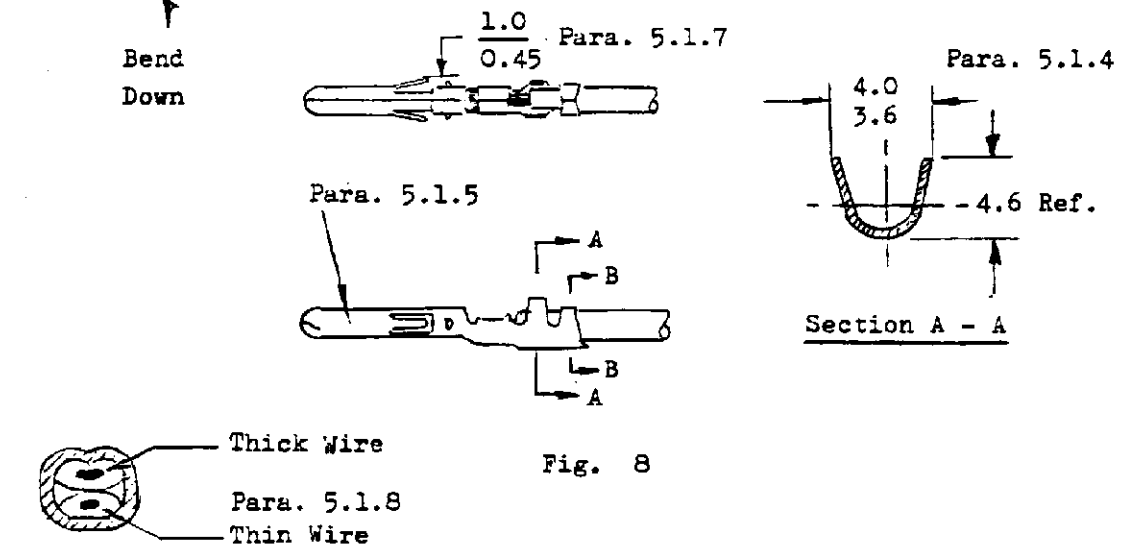

Fig. 8
- 5.1.4 Dimensions of stabilizers must be conforming to requirements in Fig. 8.